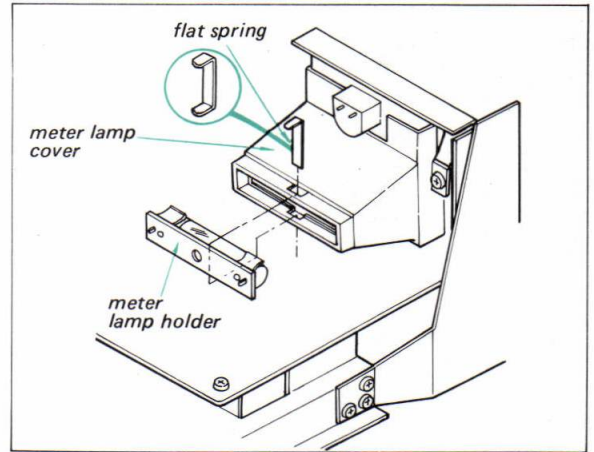

Fig. 2-15. Meter lamp replacement
1. Remove the flat spring as illustrated in Fig. 2-15, and then install the replacement lamp.